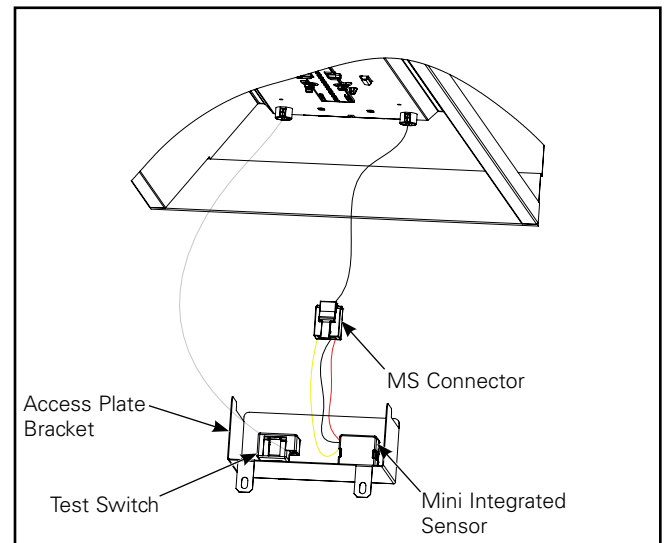

**Figure 13.**
- Wiring - Hang RSRK Gear tray to allow for wiring (Figure 13), make the connection between EM unit and LED Driver. Wire incoming power connections (ensure power is off).